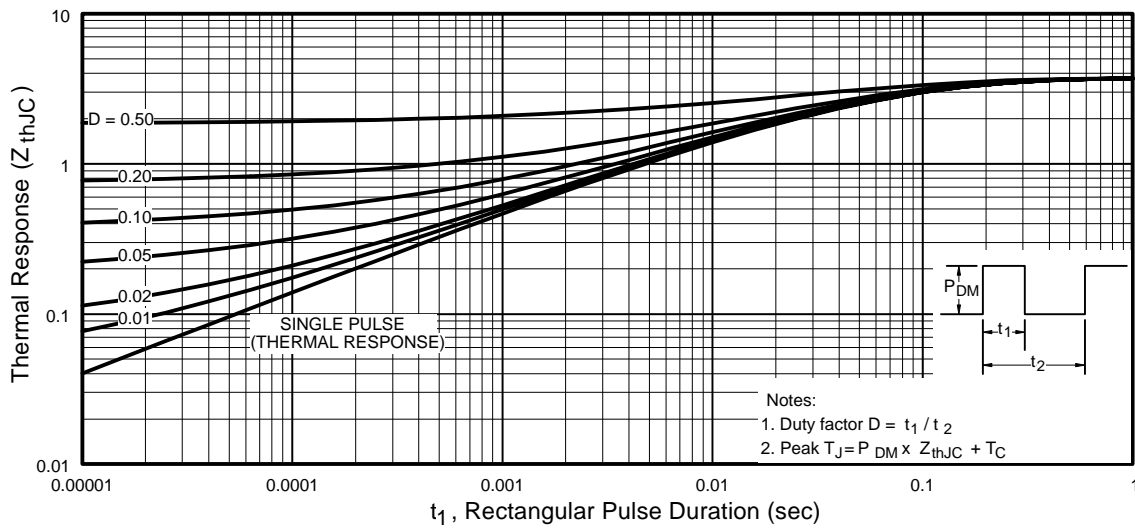

Fig 11. Maximum Effective Transient Thermal Impedance, Junction-to-Case
- ① Repetitive rating; pulse width limited by max. junction temperature. (See fig. 11)
- ② Starting $T_J = 25^\circ\text{C}, L = 3.1mH$